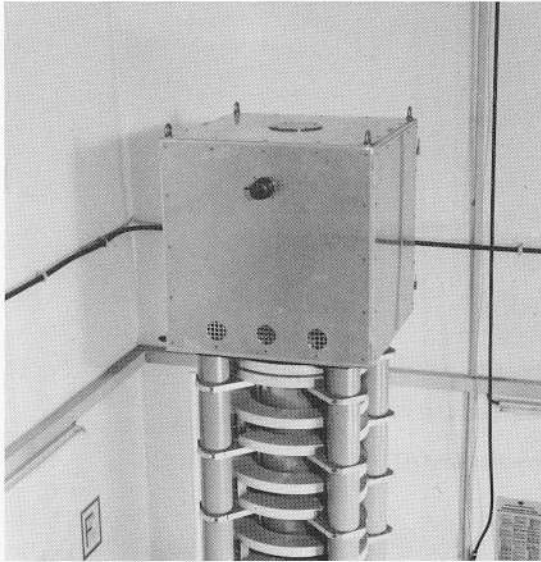

Fig. 42. Mounted HV Connection Unit (TE 1263)
- (h) The fitted unit is shown in Fig. 42.